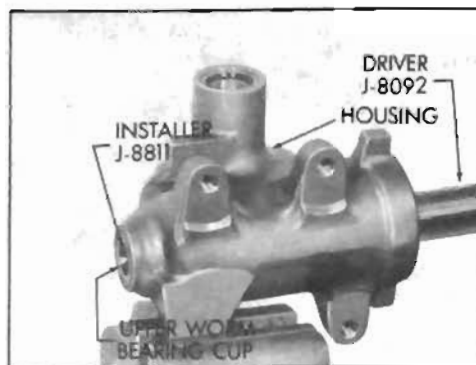

Figure 8-13—Installing Upper Worm Bearing Cup
2. Inspect worm bearings and cups for damage or excessive wear. Replace bearings if necessary. The lower worm bearing cup is not replaced separately, but is serviced with the worm bearing adjuster. If upper worm bearing cup is defective, drive cup out of housing with a punch and install new cup using Installer J-8811 with Driver Handle J-8092. See Figure 8-13.